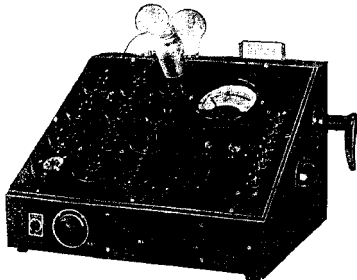

Fig. 7.
2. Output indicator: Universal testboard types 4256 or 7629 (see Fig. 7).